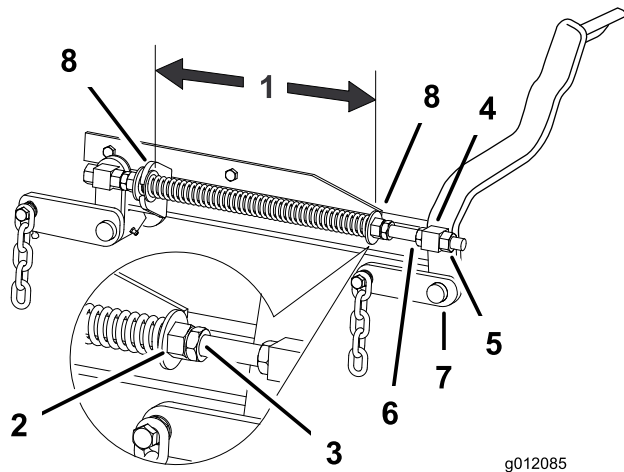

Figure 65
2. Check the distance between the two large washers, it needs to be 11-1/8 inches (28.2 cm) for 52 inch mower decks and 10-1/2 inches (26.7 cm) for 60 inch mower decks (Figure 65).
3. Adjust this distance, by loosening the spring jam nut and turning the nut in front of each spring (Figure 65).
4. Lock the nut into position by tightening the spring jam nut (Figure 65).